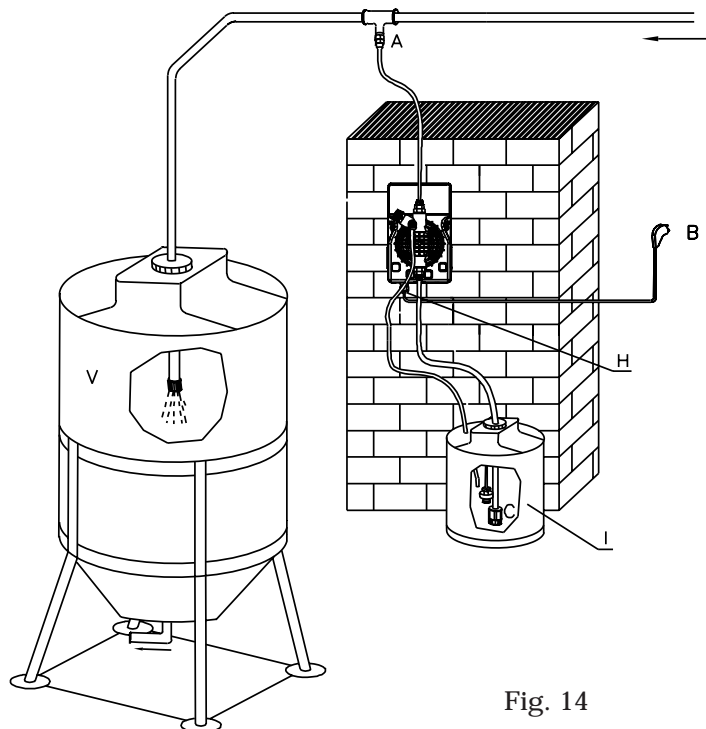

Fig. 14
7.2 - TYPICAL INSTALLATION (Fig.14)